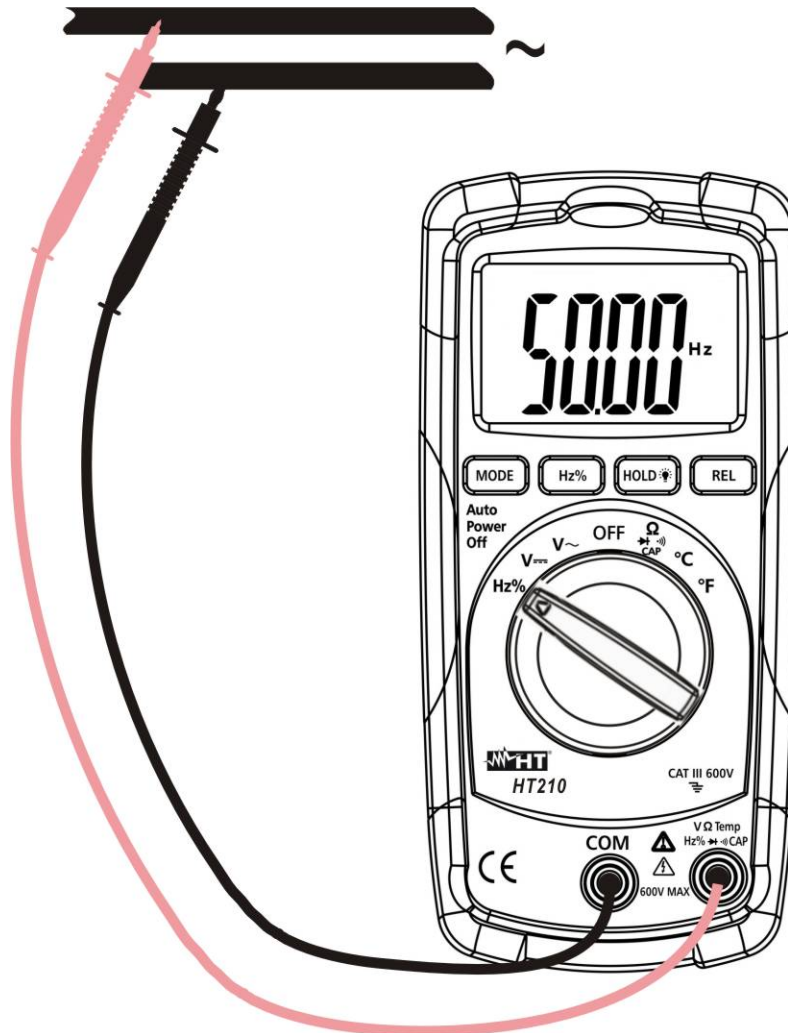

Fig. 6: Using the instrument for frequency and duty cycle measurements
2. Insert the test leads into the jacks, the red plug into **VΩTempHz%CAP** jack and black plug into **COM** jack (see Fig. 6)